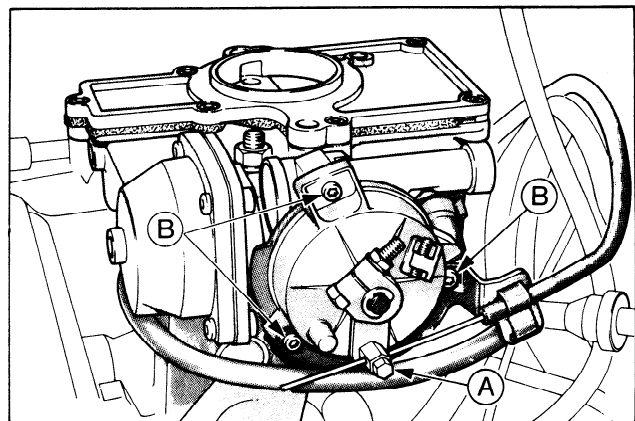

FIG. 27 Choke Cable and Lever Assembly
2. Detach manual choke cable from lever assembly (Figure 27).